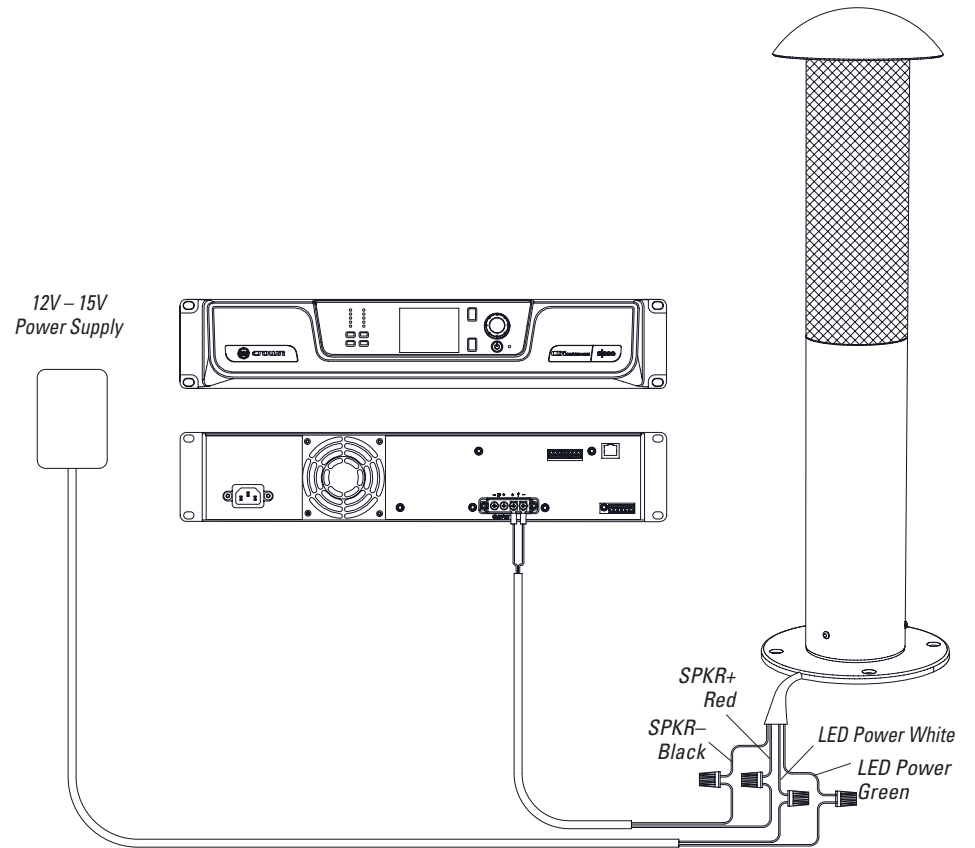

Figure 28
- Connect the red (+) speaker input pigtail wire to the (+) wire from the amplifier output, and the black (-) speaker input pigtail wire to the (-) wire from the amplifier (see Figure 28). Use crimp connectors or wire nuts to make a secure connection. For greater reliability make the connection inside an underground IP65 waterproof electrical junction box.